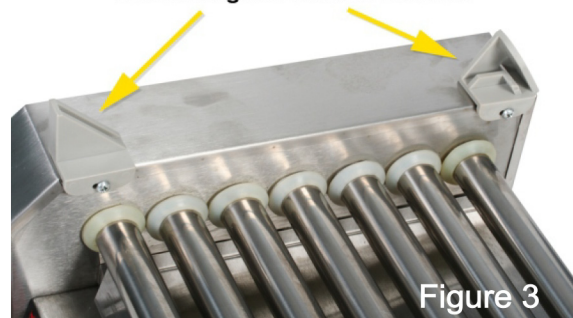

Figure 3
3. Repeat step two for the other side rear glass mount (F) and the two front glass mounts (D&G). Remember not to tighten down the screws just yet. See figure 3.